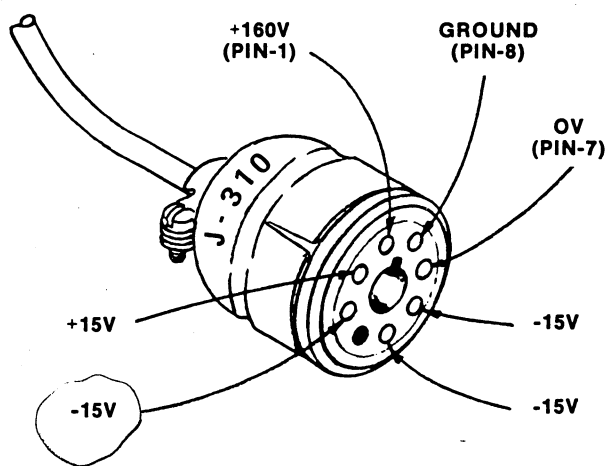

Fig. 4-18. Preamp Connector
3. Unplug the preamplifier connector (P/J310) and place a cliplead or other short across pins 7 and 8, thereby shorting input of U8 (Fig. 4-18).